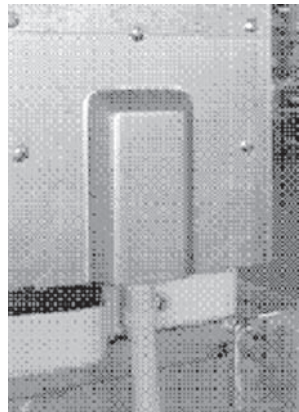

Figure 4. Power cord cover
6. Reinstall the power cord cover. See Figure 4.